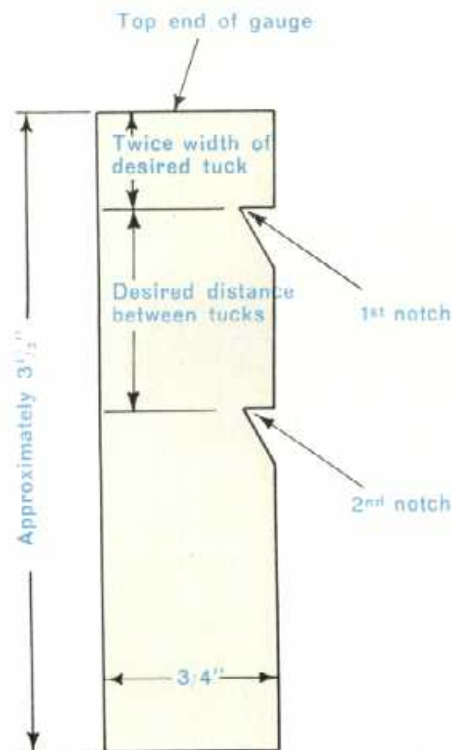

Fig. 80
- 1) From a piece of stiff cardboard, cut a strip $\frac{3}{4}$ " wide and approximately $3\frac{1}{2}$ " long, as shown in Fig. 80. This strip will be used as a gauge when marking the tucks to be made on the material. The length of the strip may vary, depending on the widths of the tucks to be made and the desired distance between the tucks.
- 2) At a distance from the top end of the gauge equal to twice the width of the desired tuck, cut a notch into the edge of the gauge, as indicated in Fig. 80. If, for instance, the width of the finished tuck is to be $\frac{1}{4}$ ", the distance of the notch from the top end of the gauge will be twice $\frac{1}{4}$ " ($\frac{1}{2}$ ").
- 3) Below the first notch, cut a second notch into the gauge at a distance equal to the desired distance between the tucks (Fig. 80).